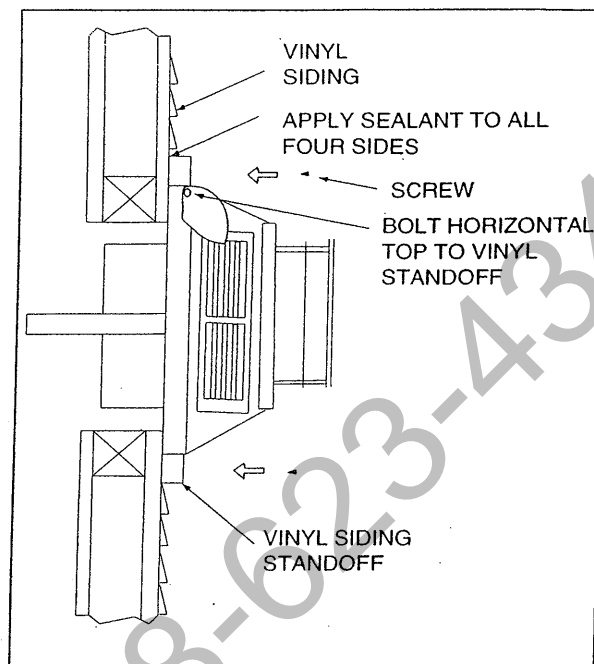

Figure 9
4. Vertical rise on the exterior. For installations requiring a vertical rise on the exterior of the building, 14-inch and 36-inch tall Snorket Terminations are available. Follow the same installation procedures that are used for standard horizontal termination found in Step 4. See Figure 9.